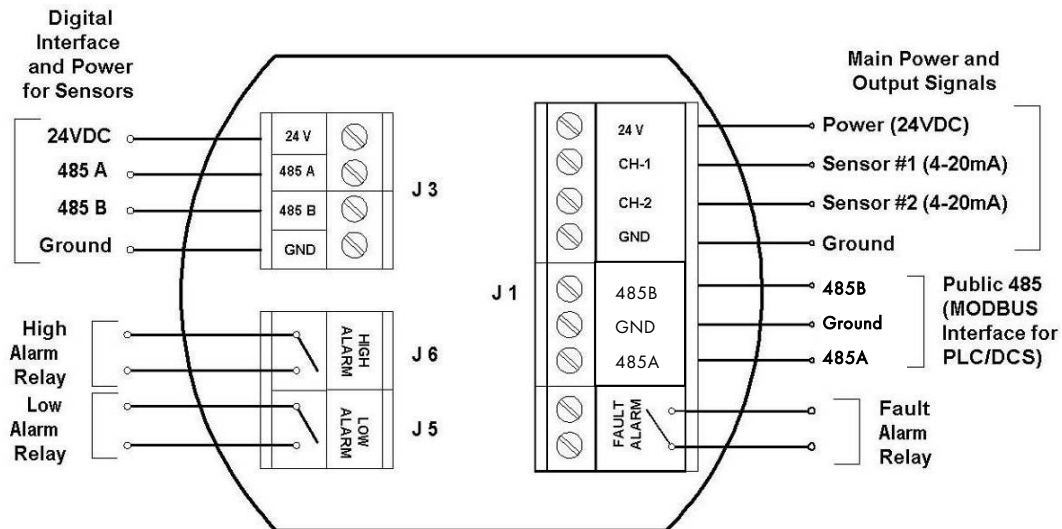
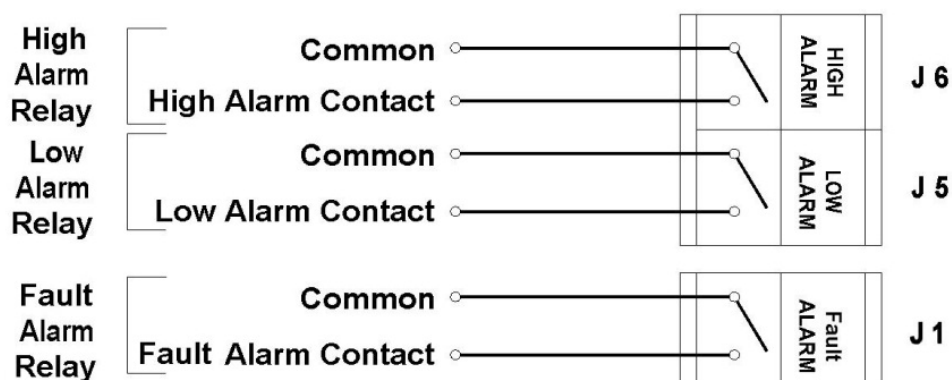

FIGURE 2-4 Electronics Module for **iTRANS-2** (Main Unit)
FIGURE 4-1 Alarm Relay Connectors J6, J5 and J1
The electronics module of the **iTRANS-2** gas monitor contains connectors and jumpers for wiring and configuring the device. The electronics module for a main **iTRANS-2** unit is shown in FIGURE 2-4. The electronics module for a remote unit is shown in
To connect the **iTRANS-2** control wires to the three relay terminals on the relay board, wire the unit to the connectors shown in FIGURE 2-4. The low alarm relay is activated when the low alarm threshold is met. This is a non-latching, Normally Open (NO) contact. The high alarm relay is activated when the high alarm threshold is met. This is a non-latching, Normally Open (NO) contact. The fault alarm relay is activated upon power-up of the **iTRANS-2**. When the fault condition is met, the circuit opens. This is an Electronically closed (NC) contact. See FIGURE 4-1 for relay wiring.